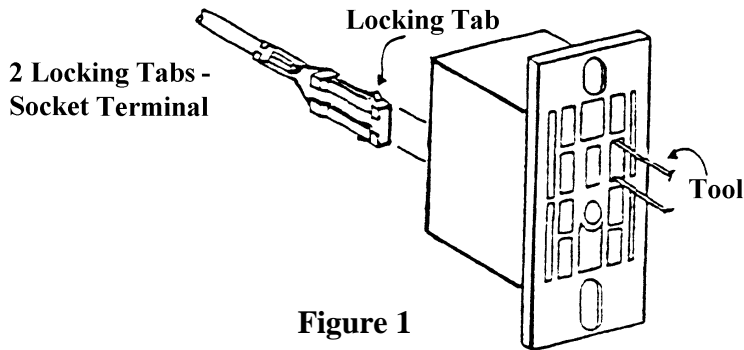

Figure 1
2. Use a double blade tool to depress the two (2) locking tabs at the same time. (See figure 1.)
7. To insert the terminal, open the two (2) locking tabs approximately 1/32" to assure locking within the housing, then push the terminal into position.